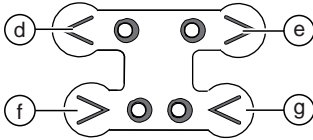

Fig. 3: Contact/retract LED and keys
4. Press and hold the keys until the LEDs on the contact keys flash (fig. 3).